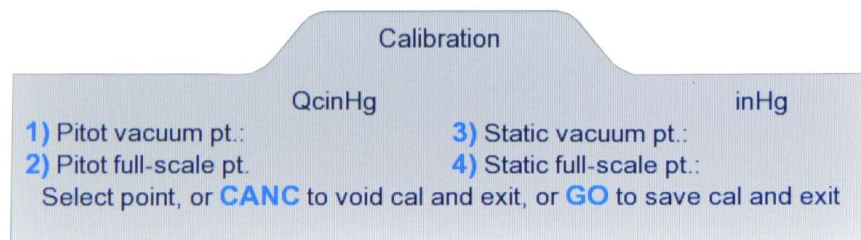

Figure 6.3 : Calibration (Main)
6. Enter '1.600' followed by **ENTER** on the keypad. The highlighted field will be replaced by '1.600'. Press **CLR** to return to the point-selection screen (Figure 6.3). You should see '1.600' on this screen, as the Static vacuum point. This indicates to the 6300 that the absolute pressure on the Static output is currently exactly 1.600 inHg.
9. Enter '0.000' (or simply 0) followed by **ENTER** on the keypad. The highlighted field will be replaced by '0.000'. Press **CLR** to return to the point-selection screen (Figure 6.3). You should see '0.000' on this screen, as the Pitot vacuum point. This indicates to the 6300 that the differential pressure on the Pitot output is currently exactly 0.000 inHg.
12. Enter '30.000' (or simply 30) followed by **ENTER** on the keypad. The highlighted field will be replaced by '30.000'. Press **CLR** to return to the point-selection screen (Figure 6.3). You should see '30.000' on this screen, as the Pitot full-scale point. This indicates to the 6300 that the differential pressure on the Pitot output is currently exactly 30.000 inHg.
15. Enter '32.000' (or simply 32) followed by **ENTER** on the keypad. The highlighted field will be replaced by '32.000'. Press **CLR** to return to the point-selection screen (Figure 6.3). You should see '32.000' on this screen, as the Static full-scale point. This indicates to the 6300 that the absolute pressure on the Static output is currently exactly 32.000 inHg.